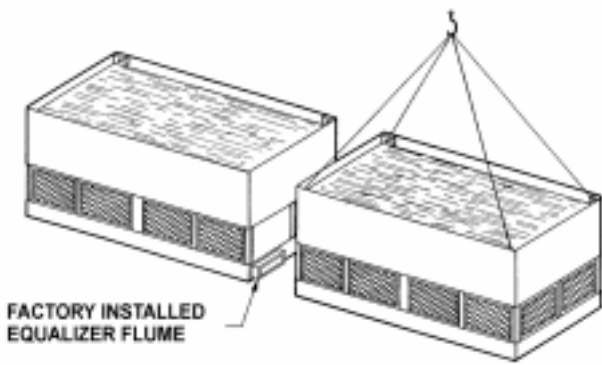

Figure 4 - Equalizer Flume Rigging Detail..
4. Rig the second bottom section adjacent to the equalizer flume on the steel support as shown in Figure 4.